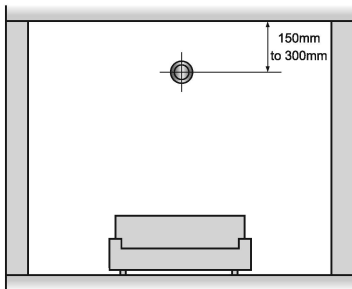

Fig.4
- The top of the detection element is between 150mm and 300mm below the ceiling (see Figure 4).